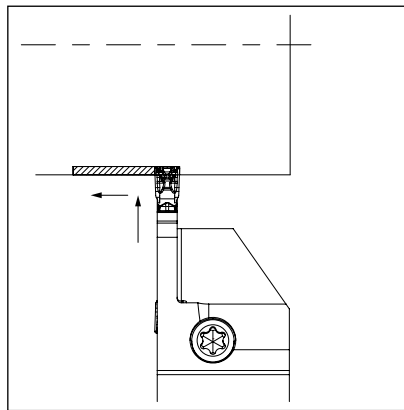

Fig. 2
2. **Grooving depth under 0.5 mm:** For finishing - refer to fig. 2